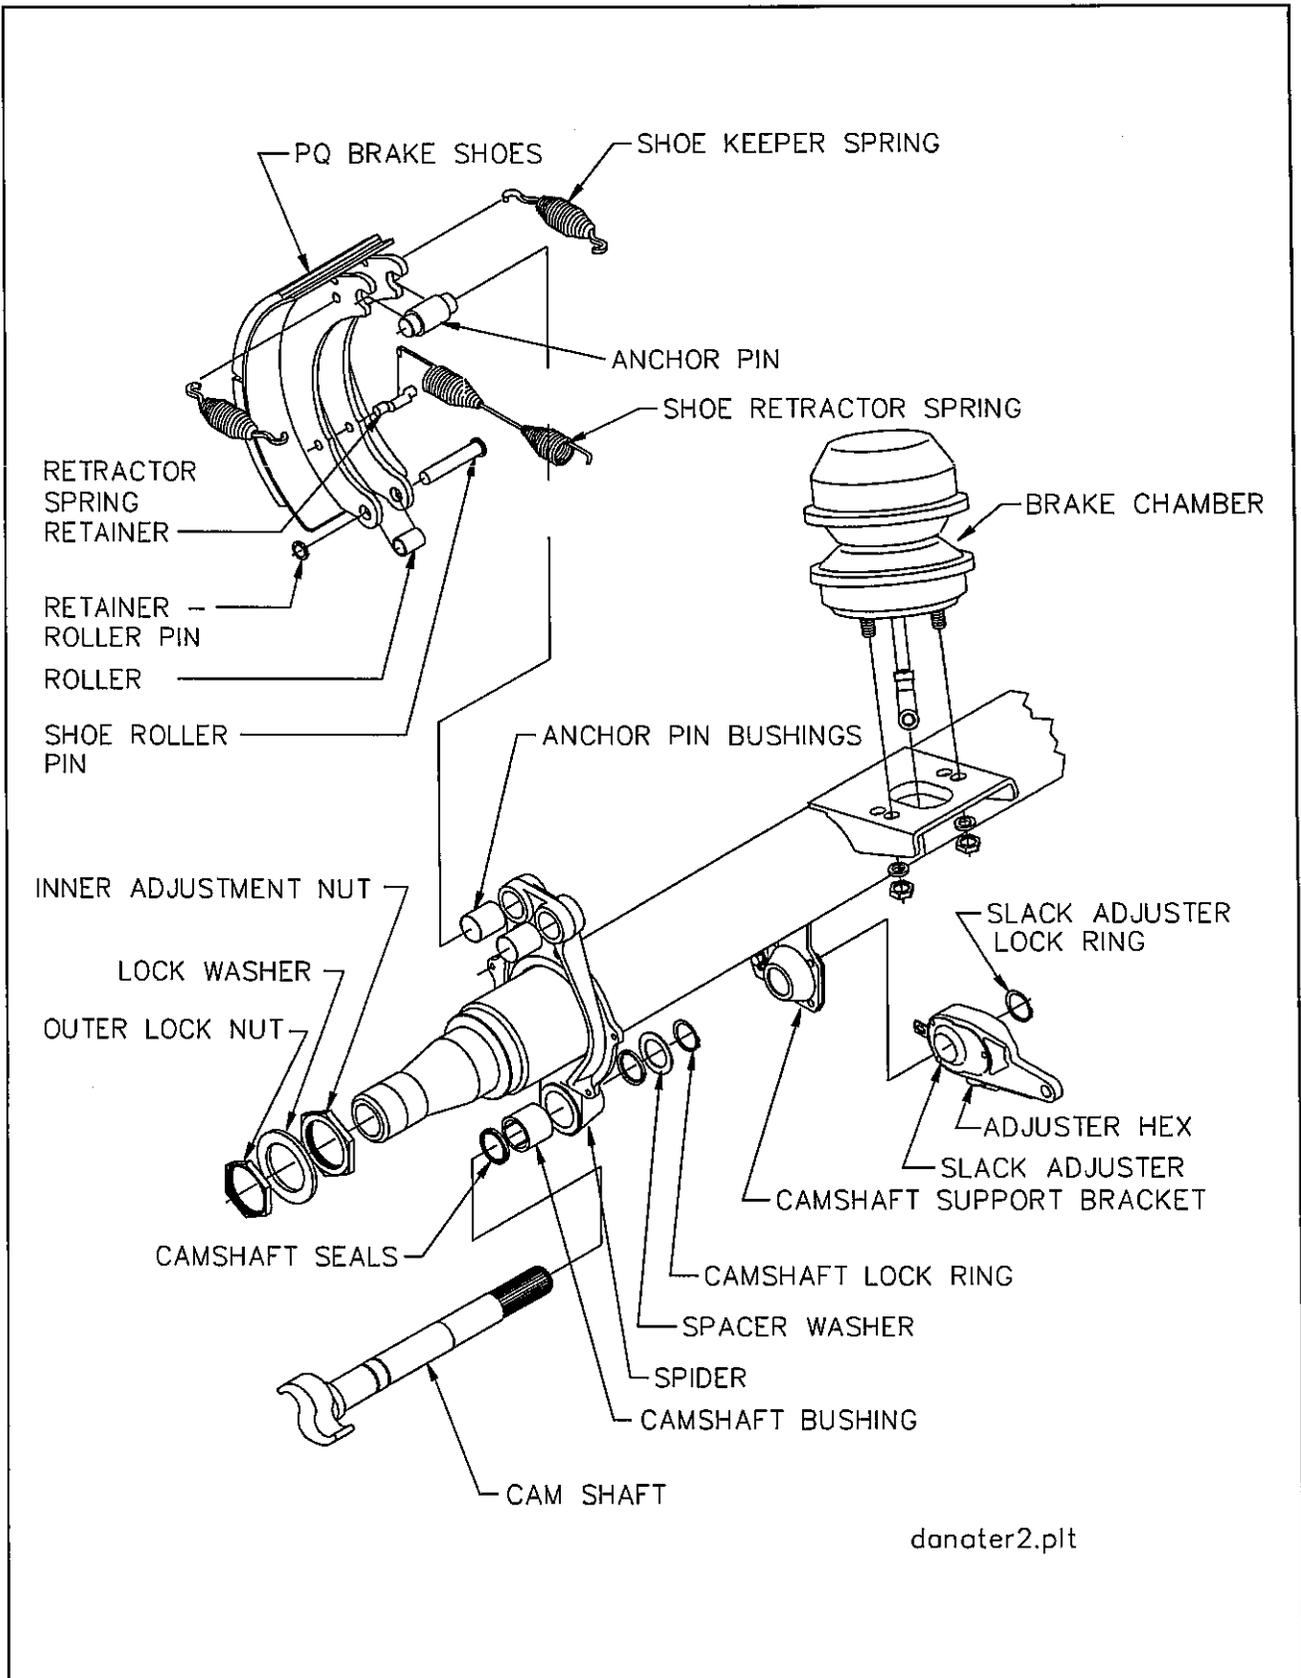

Figure 4-8 Axle and Brake Assembly
Check for faulty units. Check the condensation holes on the underside of the brake chambers to make sure they are open. The spring brake has two brake chambers, a service chamber and an emergency chamber or spring chamber (See Figure 4-8). Service brake chambers should be disassembled and cleaned at 50,000 miles or yearly. The diaphragm and any marginal parts should be replaced. When replacing the service diaphragm, replace the corresponding parts for the other chamber on the same axle (to aid in even brake application and release). Examine yoke pin for wear and replace as necessary. The spring chamber should not be serviced. Replace entire unit (both service and spring chamber) if spring chamber becomes faulty.
2. Remove dust cap from the rear of the spring brake chamber (See Figure 4-8).
b. Disassembly for 12-1/4" X 7-1/2" Brakes (See Figure 4-8)